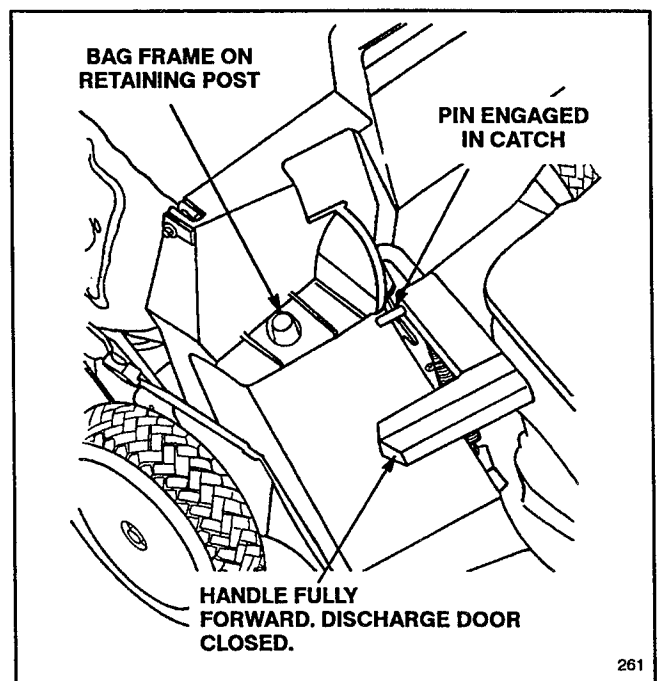

Figure 15
2. Ensure discharge door handle is fully forward and pin is engaged in catch (Fig. 15).